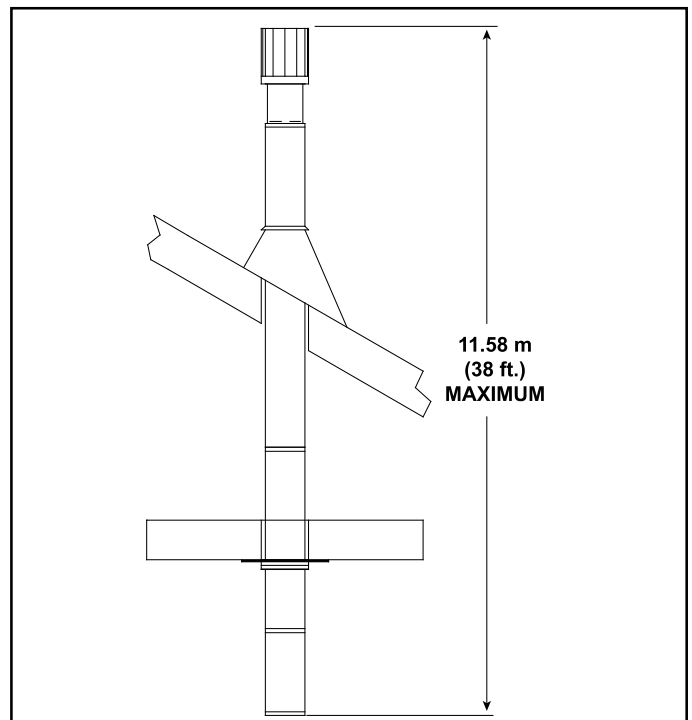

Figure 7.20
**NOTE:** Maximum vertical rise allowable is 38 ft. (11.58 m) **Figure 7.20**.